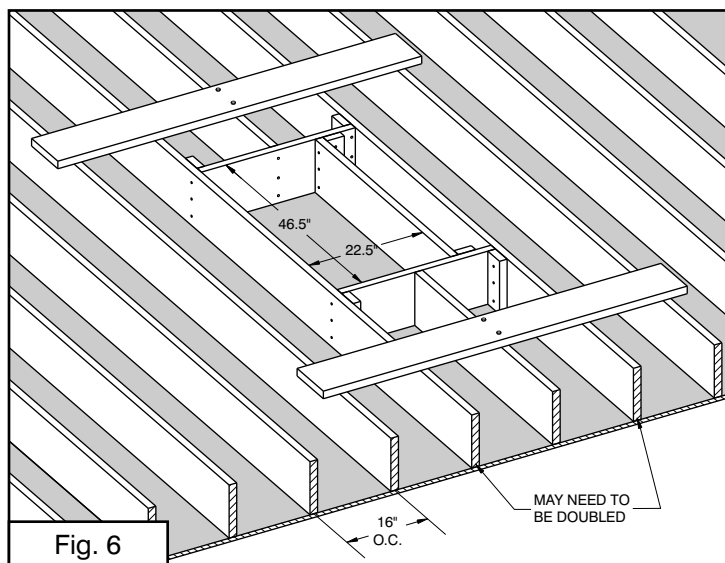

Fig. 6
**An aligned** opening with joists 16" OC requires one joist to be cut (Fig. 6).